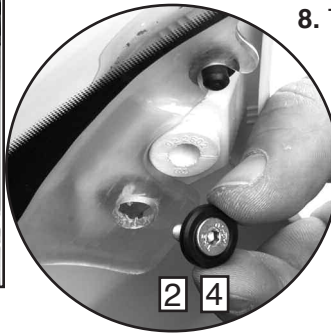

Figure 10
9. Re-install Internal Cover using stock hardware. (T25 Torx) **Figure 10 and 11**